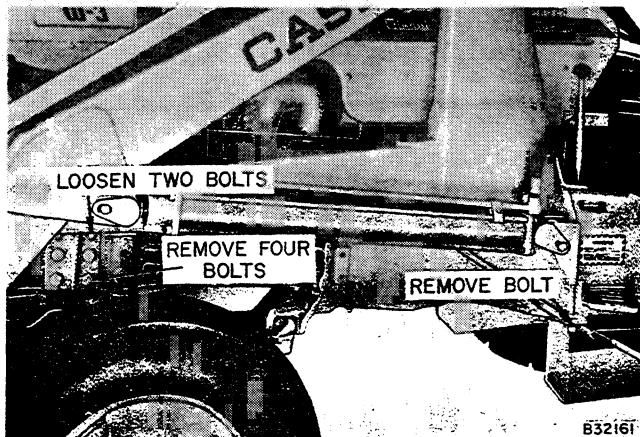

Figure 32 — Location of Front Mounting Bolts
3. Remove bolts at front and rear of unit as shown in Figures 32, 33, and 34.
4. Refer to Figures 32, 33, 34, and 35, install bolts and torque to specifications shown below.